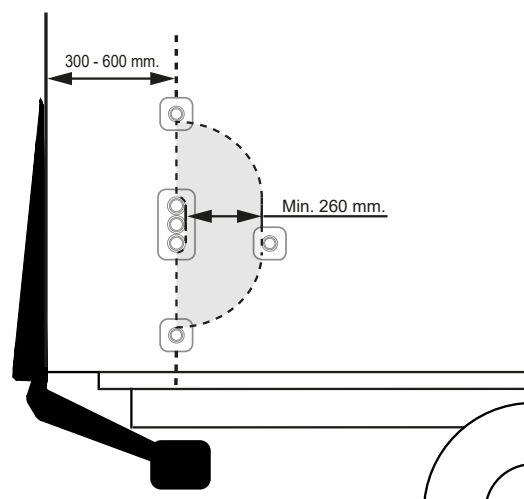

Figure 28. Installing control devices for two-handed grip
2. The distance between the vehicle's rear edge and the centre of the controllers must be 300-600 mm. The distance between the controllers must be at least 260 mm. See Figure 28.